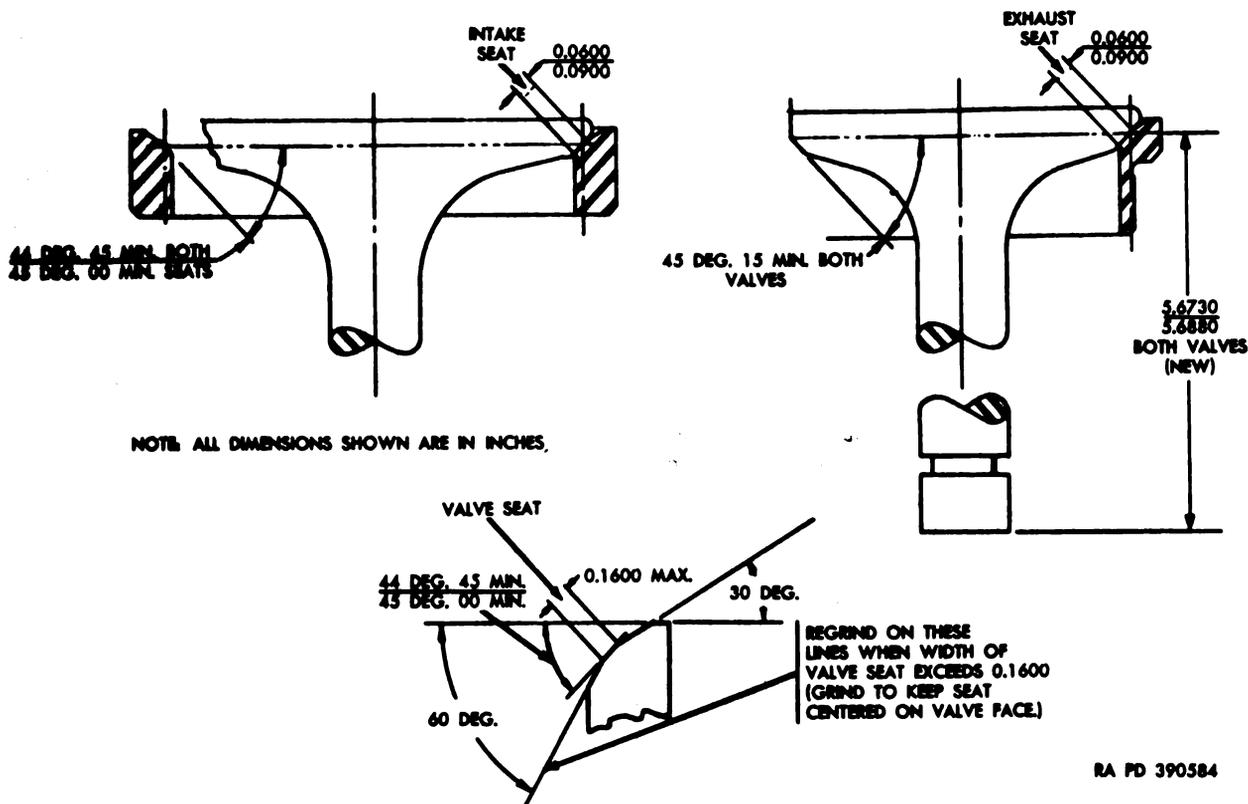

Figure 80. Valve and valve seat grinding diagram.
- (c) Grind pitted or burned valves, or valves that do not seat perfectly, to limits specified in figure 80. Replace valves that cannot be ground to these limits.
- (d) Check valve length from seat contact to tip of stem after grinding as shown in figure 80. Replace valve if length does not conform to tolerances specified in repair and rebuild standards (par. 310).
- (2) *Valve springs* (BB through DD). Replace springs if worn, cracked, set, or otherwise damaged. Replace springs not conforming to limits specified in repair and rebuild standards (par. 310).
- (3) *Valve spring retainers, valve rotor assembly, and locks.*
- (b) Replace exhaust valve rotor assembly (EE) if inner section does not rotate freely or if assembly is cracked or broken.
- (c) Replace spring retainer locks (P) if worn or cracked.
- (1) *Valve guides* (L and FF).
- (2) *Valve seat inserts.* Replace cylinder if inserts do not fit securely in cylinder. Grind inserts having burned or pitted surface or inserts having seats which do not show perfect contact with valve face. Grind inserts as described in (a) through (f) below.
- (d) When perfect contact is obtained, narrow seat on insert to width specified in figure 80 by grinding inner wall and exposed face of insert to angles specified.